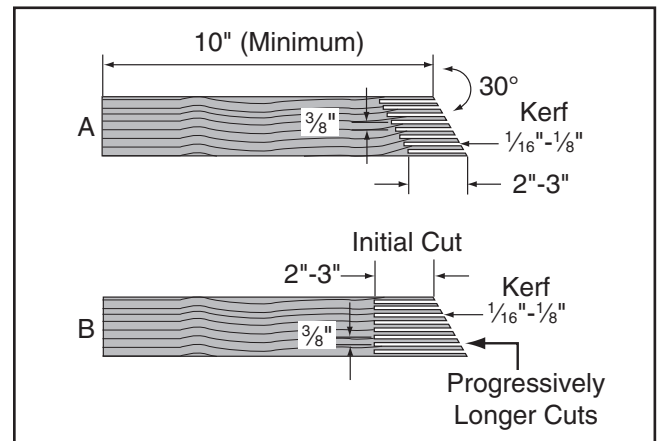

Figure 67. Patterns for featherboards (top view shown).
3. Make a series of end cuts with the grain $\frac{3}{8}$ "- $\frac{1}{4}$ " apart and 2"-3" long, as shown in **Figure 67** (A). Alternatively, start cuts at 2"-3" deep, then make them progressively deeper, as shown in **Figure 67** (B).